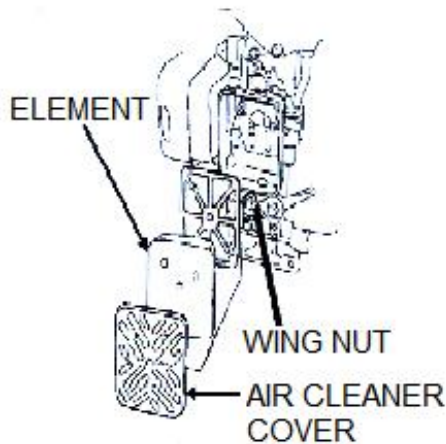

Figure 15. Air Filter
2. To clean or replace air filter loosen the wing nut on the air filter housing (Figure 15), remove the cover and takeout air filter cartridge. If only cleaning of the air filter is desired blow through the air filter cartridge from the inside, moving a jet of dry compressed air up and down until all dust is removed.